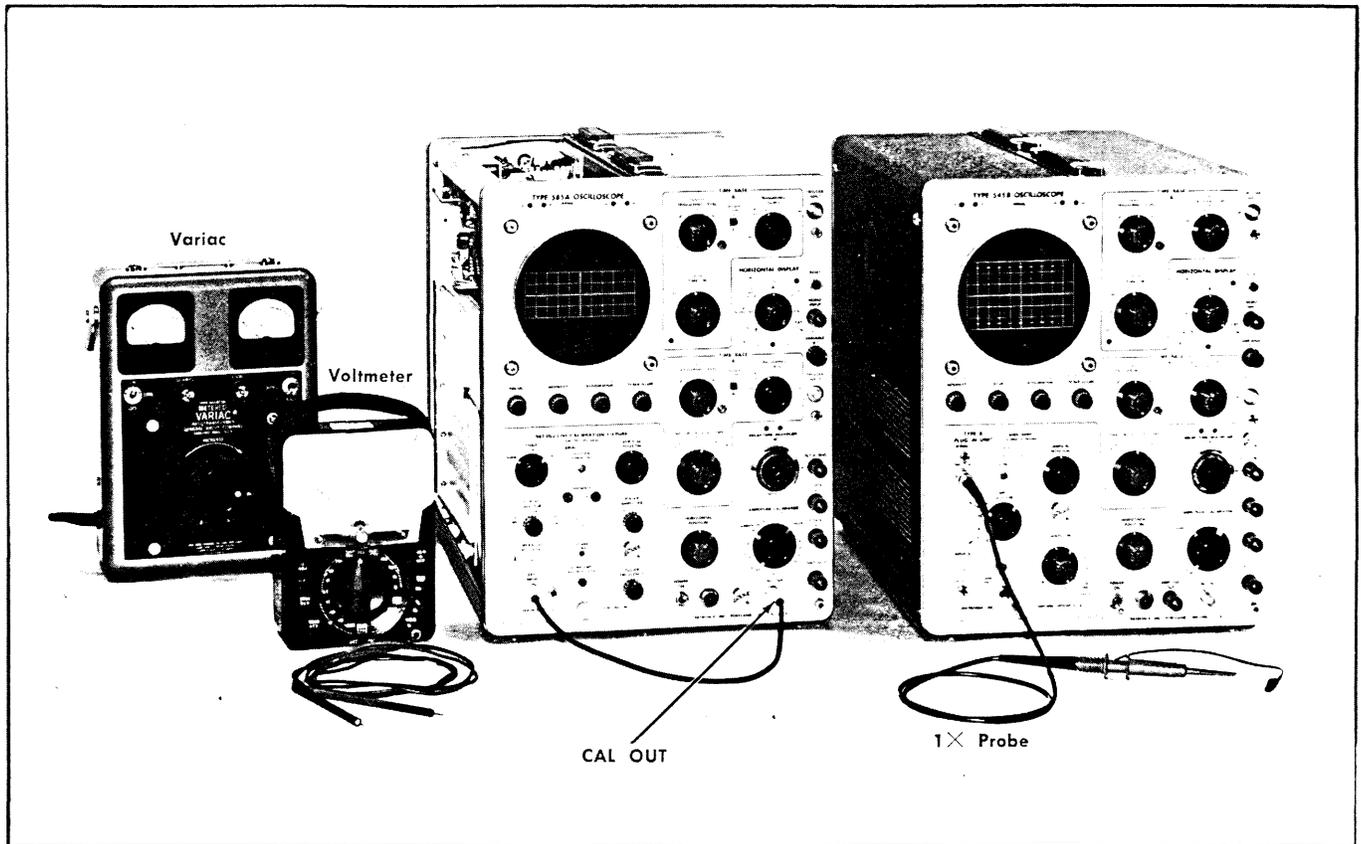

Fig. 6-3. Equipment setup for steps 1 through 7.
1. Adjust—150-Volt Power Supply	①
a. Equipment setup is shown in Fig. 6-3.
4. Adjust High Voltage Power Supply ❶